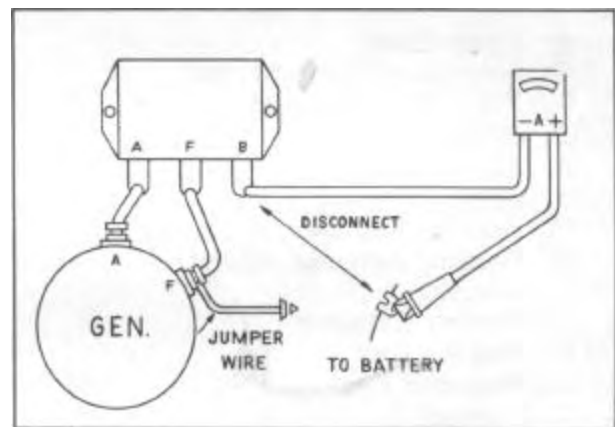

FIGURE 7
1. Disconnect battery lead at voltage regulator "B" terminal; connect the ammeter negative lead to the regulator "B" terminal and the positive lead to the wire disconnected from the regulator, Figure 7.